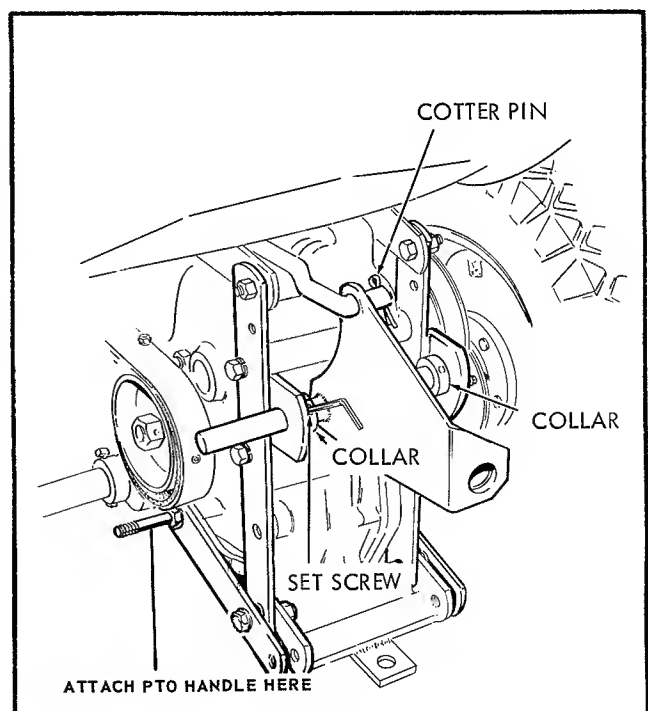

Fig. 3
3. Insert right end of lift assembly into hole in right hitch member and position lift assembly so that collar is flush against right hitch member. Position collar on left side of lift assembly so it is flush against left hitch member; tighten socket hd. set screw with Allen-Wrench. See Figure 3.
4. Connect lift assembly to Rear Lift Group. Secure with Cutter Pin. See Figure 3.